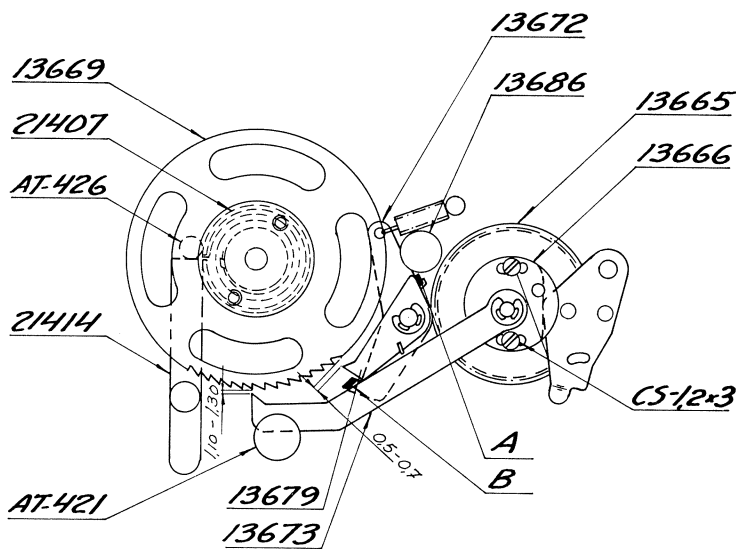

Fig. 2
Fit coil spring 21407, see Fig. 2.
- a) Turn gear 13665 with its cam 13666 so that the arm 13673 is in the same position as that shown in Fig. 2. Press in the zero button 13686 from the inside of the magazine and check that the arm 13673 and pawl 13679 fall into the catch teeth on the counter wheel 13669. When the zero button is released, both the "hooks" must clear the counter wheel so that it can rotate freely.
- Adjustment:** Both the angular stops "A" and "B" respectively on the zero lever 13672 are adjusted by bending in the required direction using tool V-2239. See Fig. 2.